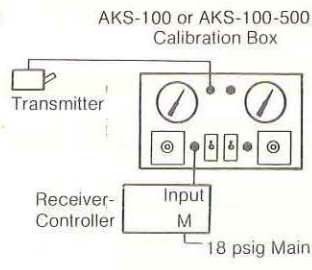

Figure 7.
3. Connect the transmitter line and "trans" connection on the RKS-5001 to calibration box as shown in Figure 7.